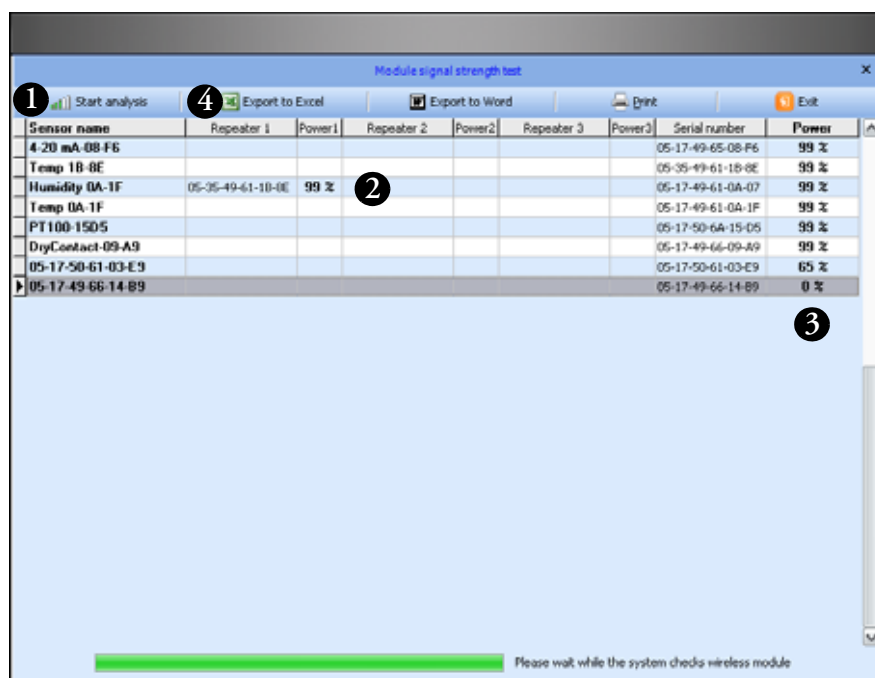

Figure 97. Checking wireless signal performance
2. Click on Start analysis (#1 in Figure 97)..